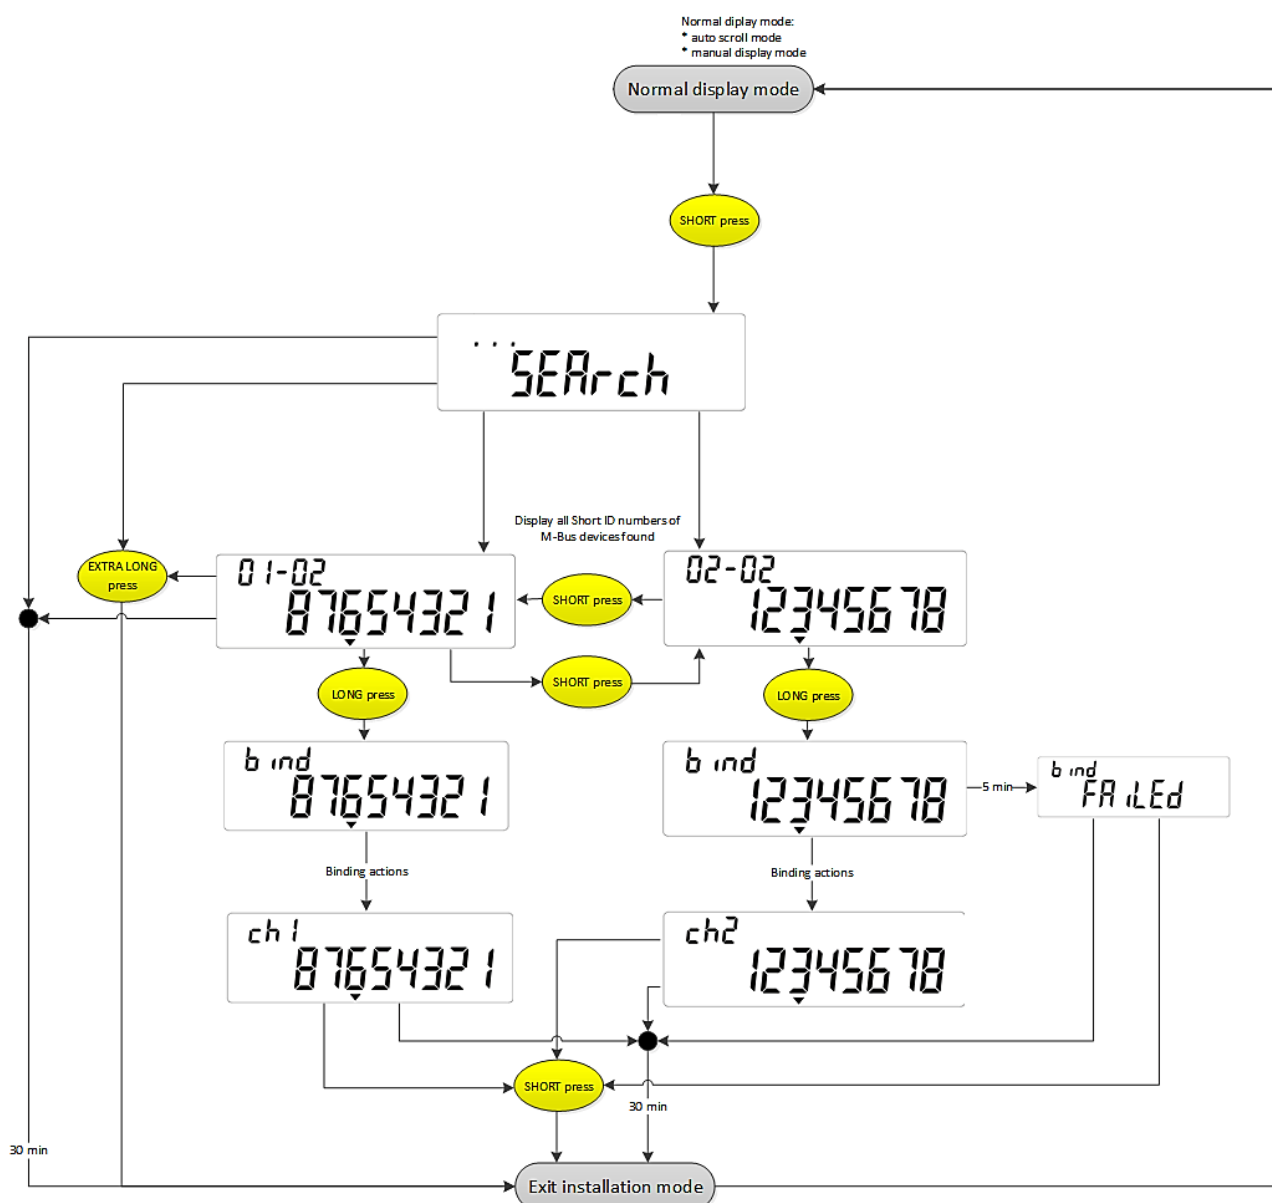

Figure 141: Wireless M-Bus binding procedure – bidirectional communication
M-Bus device with bidirectional communication for binding uses send installation message (SND_IR). After device is selected with long button press, display prints message “bind” in the upper left corner, indicating that E-meter is waiting for second SND_IR message and SND_NR message. Binding process is presented in Figure 141.
- After manually enter search mode for wireless M-Bus devices (Figure 141).